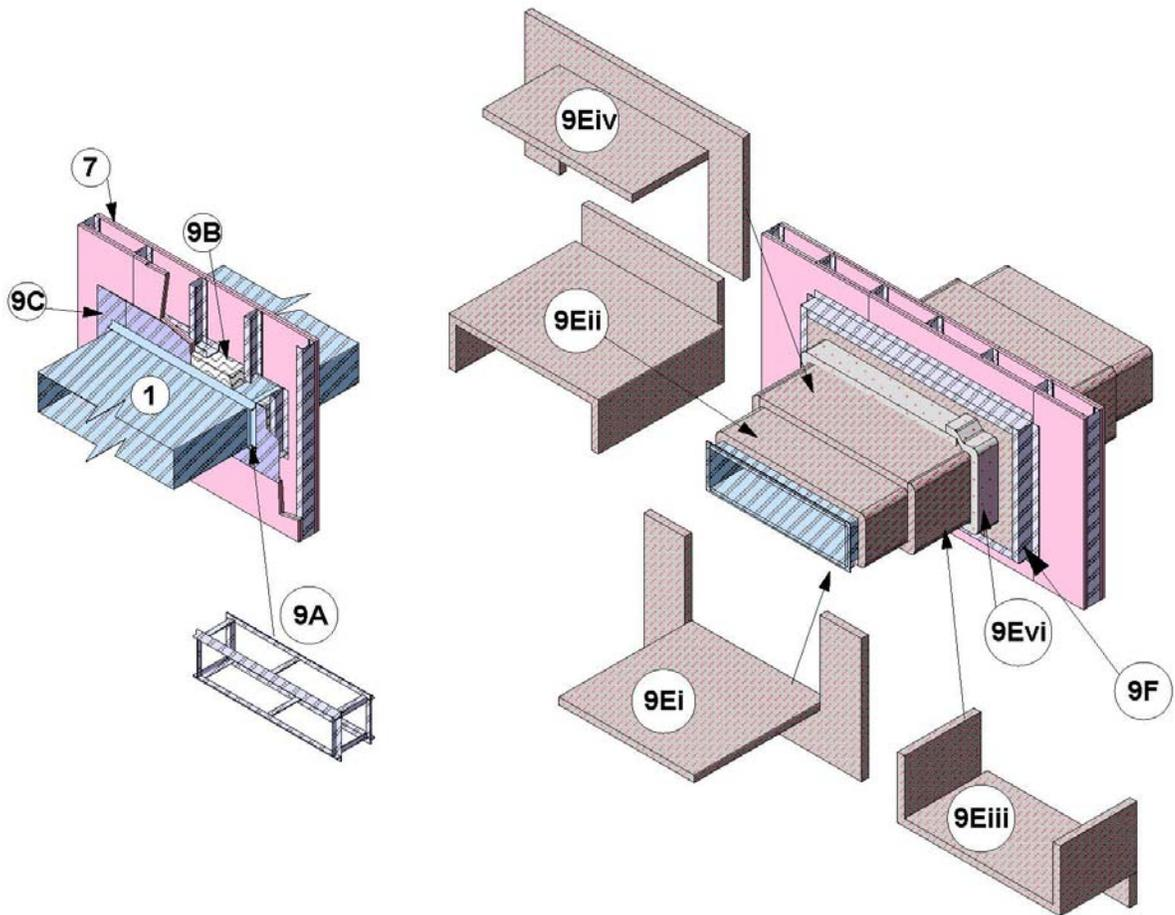

Figure 2
A. REINFORCEMENT CAGE – Install a reinforcement cage made from 32mm (1.25 in.) x 32mm (1.25 in.) x 5mm (3/16 in.) angle and 32mm (1.25 in.) x 5mm (3/16 in.) flat stock as shown in Figure 2. Bolt the two sides of the reinforcement cage with M8 (or equivalent) bolts. Center reinforcement cage in the supporting construction. Once centered, bolt the reinforcement cage to the Ventilation Air Duct (Item 1) using M8 bolts (or equivalent) spaced